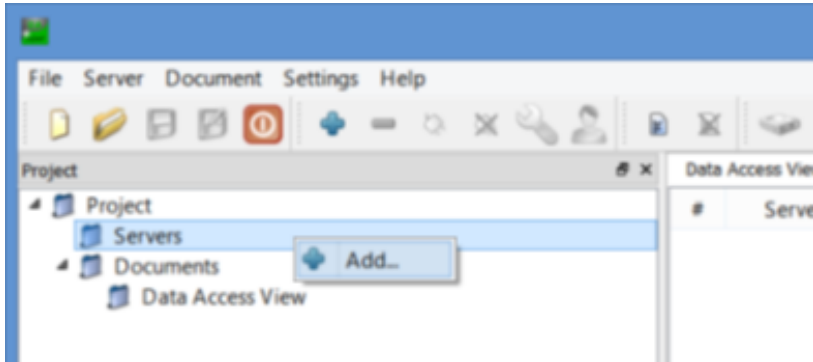

Figure 3-22: Add option
3. In the Project tree, right-click **Servers** and click **Add**. (Figure 3-22)